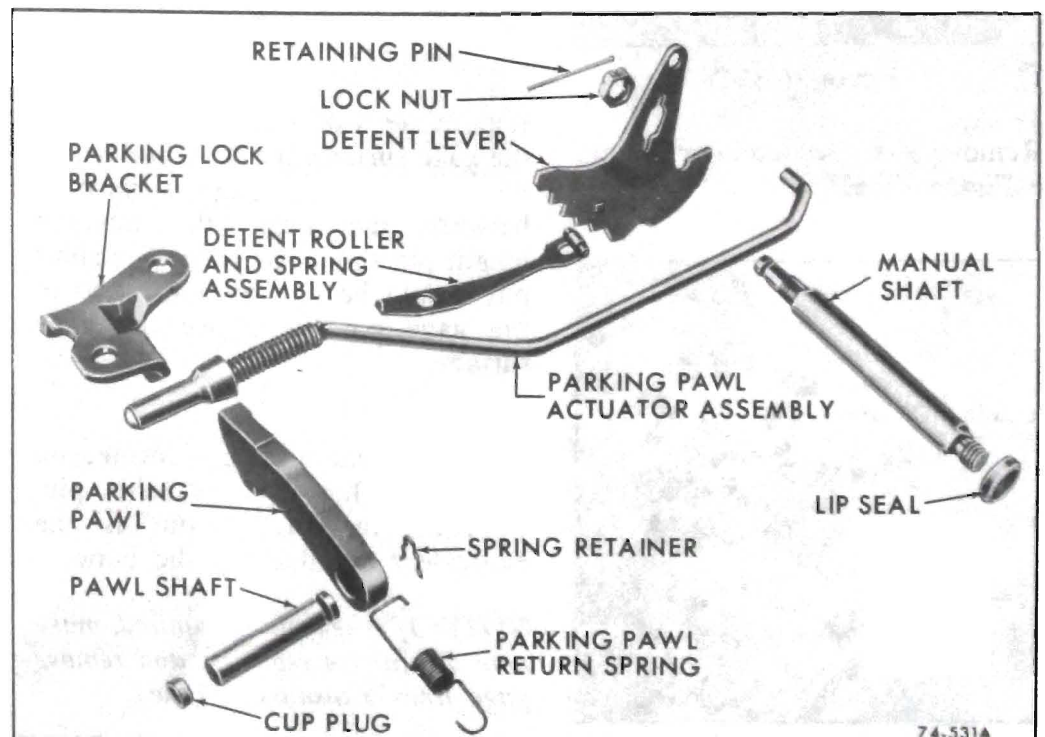

Figure 76-530
d. Remove manual shaft and jam nut from case. See Figure 76-530.